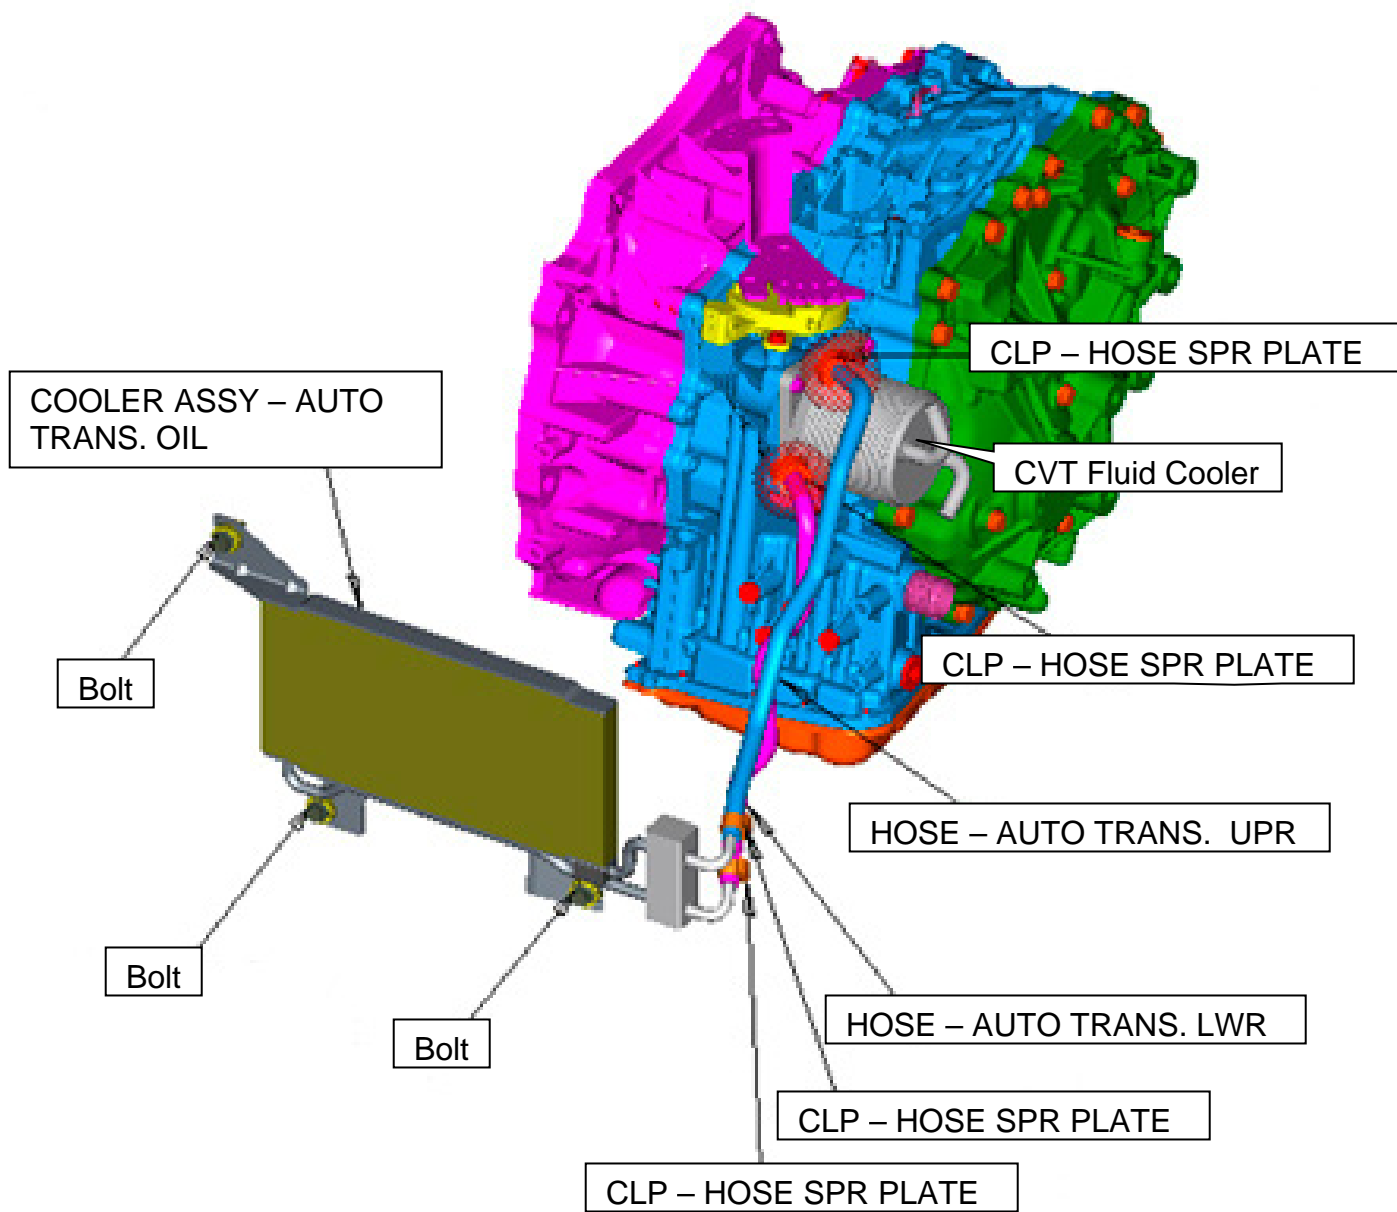

Figure 14
NOTE: Figure 14 on page 8 shows an overview of the external CVT cooler and hose routing.
Figure 14 shows overview of external CVT cooler and hose routing.
- See Figure 14 for hose routing.